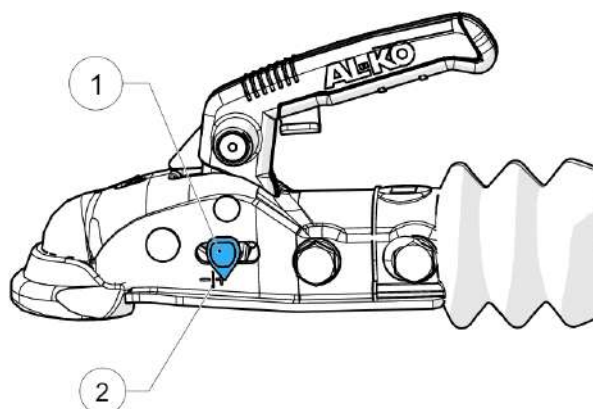

Figure 26 - Tow hitch wear indicator
10. Check that the wear indicator (1, Figure 26) is on the positive side of the limit mark (2, Figure 26).